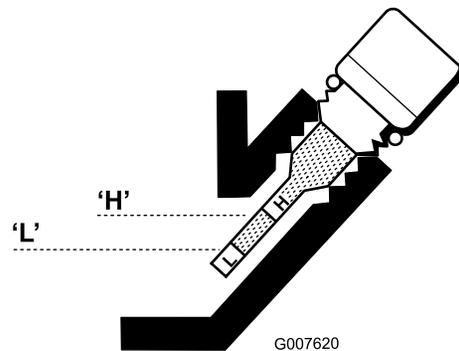

Figure 26
3. Wipe oil level gauge clean and insert it into filler port. Do not screw into port. Then remove and check level of oil. If level is low, add only enough oil to raise level until it is between the "H" and "L" marks on the gauge (Figure 26). Recheck level of oil. Do not overfill.